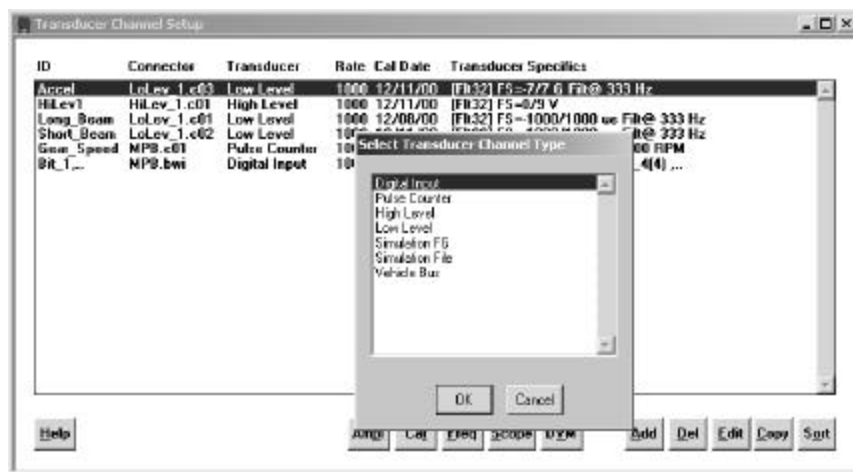

Figure 7-2: Select Transducer Channel Type Dialog Box
5. At the Select Transducer Channel Type dialog box (**Figure 7-2**), select the channel type you want. Either move the highlight bar to the type and select OK or double-click on the type name.